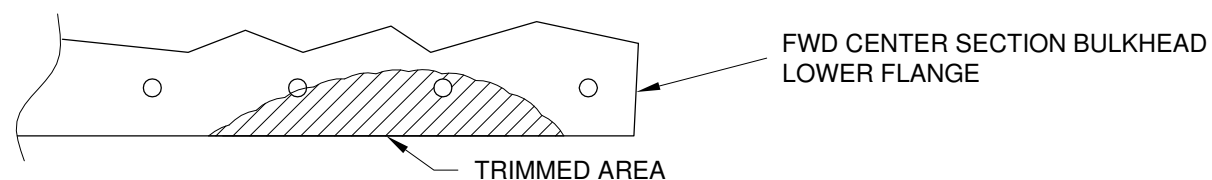

FIGURE 1: TRIMMING THE FWD CENTER SECTION BULKHEAD LOWER FLANGE
Step 1: Temporarily bolt the **WD-01021-L-1** Landing Gear Mount Left to the Fwd Center Section Bulkhead Assembly as shown in Figure 2. This will require trimming the outboard portion of the fwd center section bulkhead lower flange to remove interference with the gear leg socket as shown in Figure 1. Figure 1 gives only the general idea of how the final trim will look and is not a final trim template. Trim the fwd center section bulkhead progressively using the landing gear mount left as a guide. Repeat for the **WD-01021-R-1** Landing Gear Mount Right.